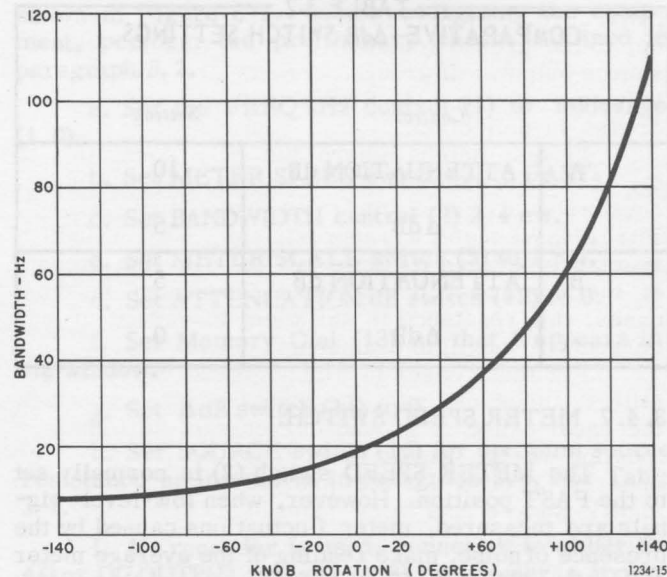

Figure 3-3. Variation of bandwidth with respect to knob rotation.
The BANDWIDTH control (3) covers a half-power bandwidth range of 10 to 100 Hz. The change in gain over this range, is less than 1.0 dB. The minimum BANDWIDTH control setting (fully ccw) will give the maximum signal-to-noise ratio but requires a highly stable modulating frequency source. Figure 3-3 shows the variation in bandwidth with respect to rotation of the BANDWIDTH control.